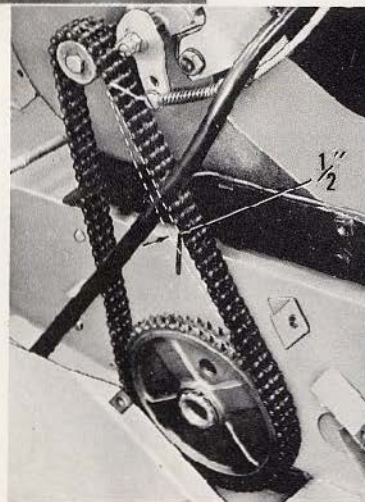
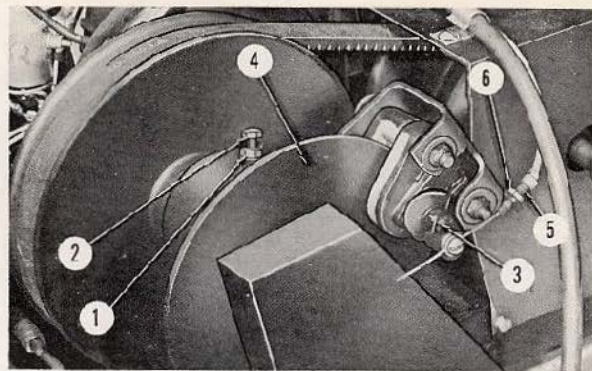

FIGURE 14
FIGURE 15
Total slack must be $1/2"$, Figure 14.
1. Loosen adjusting screw lock nut (Fig. 15, Ref. 1).
2. Loosen eccentric screw lock nut, Fig. 15, Ref. 1, which will permit you to move eccentric screw, Ref. 2, loosening chain. Remove screw holding small sprocket and remove chain and sprocket.
5. Move eccentric screw, Fig. 15, Ref. 2, tightening chain to desired tension. Chain should have $1/2$ " total slack, Figure 14, then tighten lock nut, Figure 15, Ref. 1.
Brake is positive acting disc type with long lasting fibre pads and requires little maintenance, only an occasional adjustment. See Figure 15.